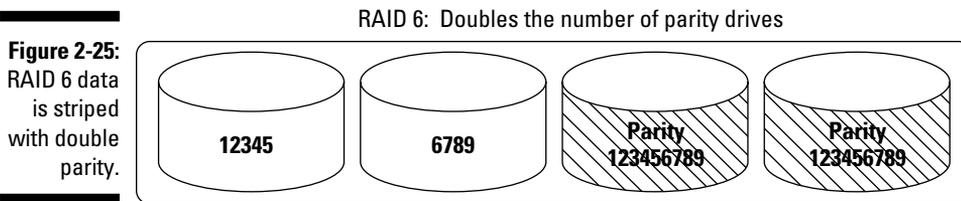

Figure 2-25: RAID 6 data is striped with double parity.
- ✔ **RAID 6:** The chance of a disk drive failure increases over time. When you need to store data for long periods on disk, RAID 6 can be used to prevent data loss, even from double-disk failures. RAID 6 uses two parity drives to reduce the odds of data loss. RAID 6 is the worst performer but the most reliable. (See Figure 2-25.)